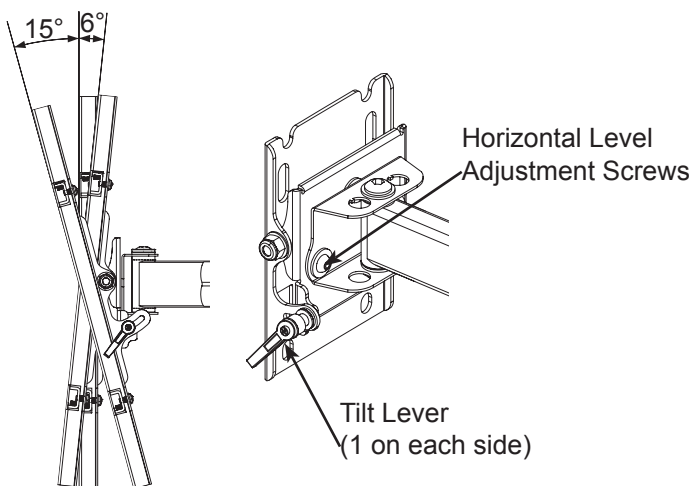
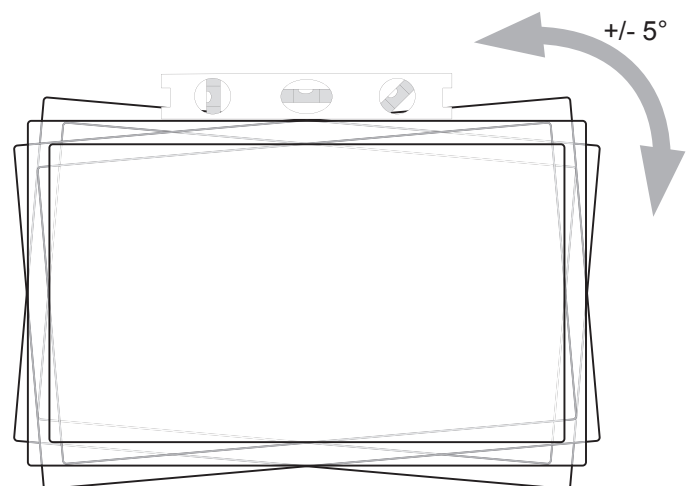

Figure 8
Figure 9
1. Loosen Tilt Levers on each side of Head Mount (only enough to allow controlled adjustment) (Figure 8).
1. To adjust the horizontal angle of the display, first slightly loosen the top two screws on back side of the Arm Assembly Head Mount using the provided Allen Key. Then firmly hold opposite corners of the display and gently turn it into the desired position. When level, re-tighten screws to lock in position (Figure 8 and Figure 9).